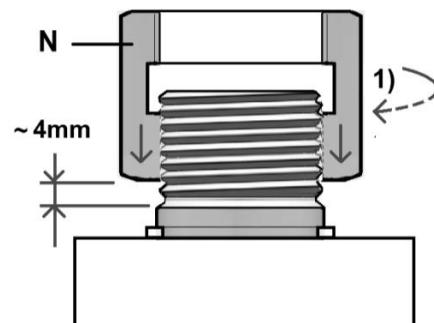

Fig 10
- 1) Install the arbour nut (N, Fig 10) to the machine spindle. Keep approx. 2 turns (4mm) distance to the end of spindle nose thread.